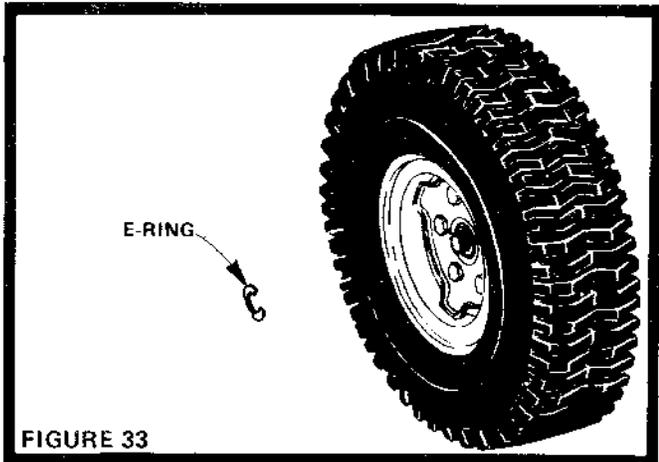

FIGURE 33
- Block up Rear Axle securely or use a Tractor Jack. Remove left rear wheel by removing E-Ring (Fig. 33).
- Block up Rear Axle securely or use a Tractor Jack. Remove Left Rear Wheel by removing E-Ring (Fig. 33).
- Removing rear wheel for tire repair (Fig. 33).